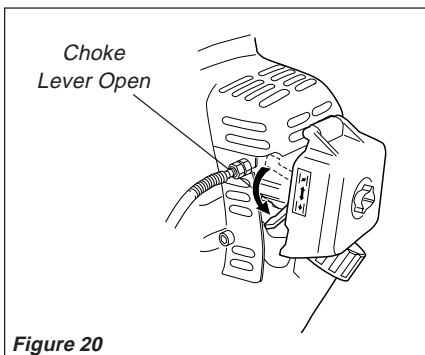

Figure 20
Open the choke by moving the choke lever down. See Figure 20.
3. Open the choke (Figure 20) and fully depress the throttle lever with your left hand, then pull the starter handle rapidly with your right hand to clear excess fuel from the combustion chamber.